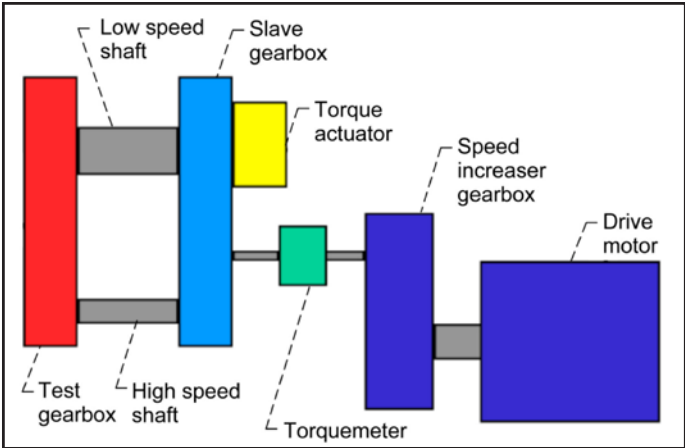
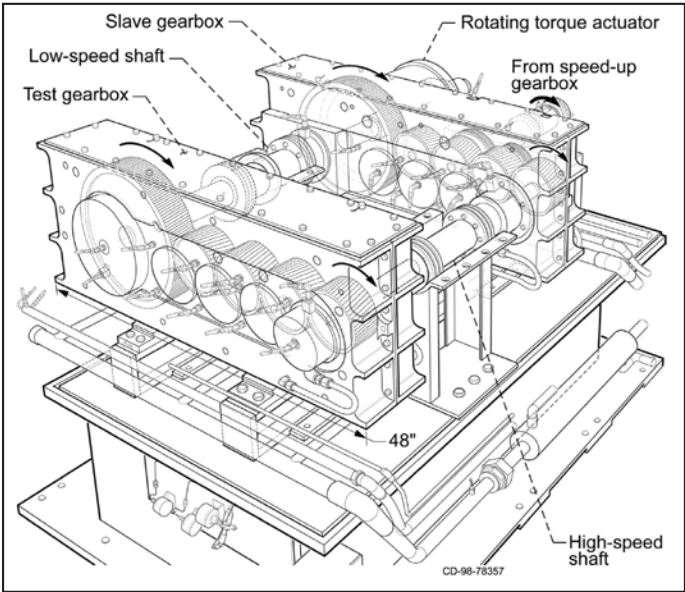

Figure 3 Test facility arrangement.
Figure 4 Sketch of test facility primary components.
**Test facility.** The test facility used in this study is the high-speed helical geartrain test facility located at NASA Glenn Research Center just outside Cleveland, OH (Ref. 2). The test facility arrangement is shown (Fig. 3), as is a sketch of the key test system components (Fig. 4).
Referring to Figure 3 for the discussion, the facility operates as a closed-loop test facility. Power is circulated from the test gearbox to the slave gearbox and then returns to complete the torque loop. A rotating torque actuator in the slave gearbox provides an adjustable loop torque while the drive motor must provide for all of the gear, bearing, and windage losses. With the current components, up to 5,000 hp can be circulated around the test to the slave gearbox loop. The high-speed shaft, simulating the power turbine shaft, can be rotated to 15,000 rpm. Most of the test conditions that will be reported in this paper have to do with the hover and forward flight speed conditions. The drive system input shaft rotates at 15,000 and 12,500 rpm, respectively, at these conditions. Both gearboxes have separate lubrication systems that include supply and scavenge pumps, filters (3 μm), heaters, heat exchangers, etc. The test and slave gearboxes operate in a dry sump mode where the lubricant that is jet-fed to the gears and bearings is removed immediately after lubricating and cooling via the scavenge pumps. For all the data presented in this report, the slave gearbox operating conditions were constant, at ~160° F lubricant inlet temperature, and ~80 psi jet pressure.